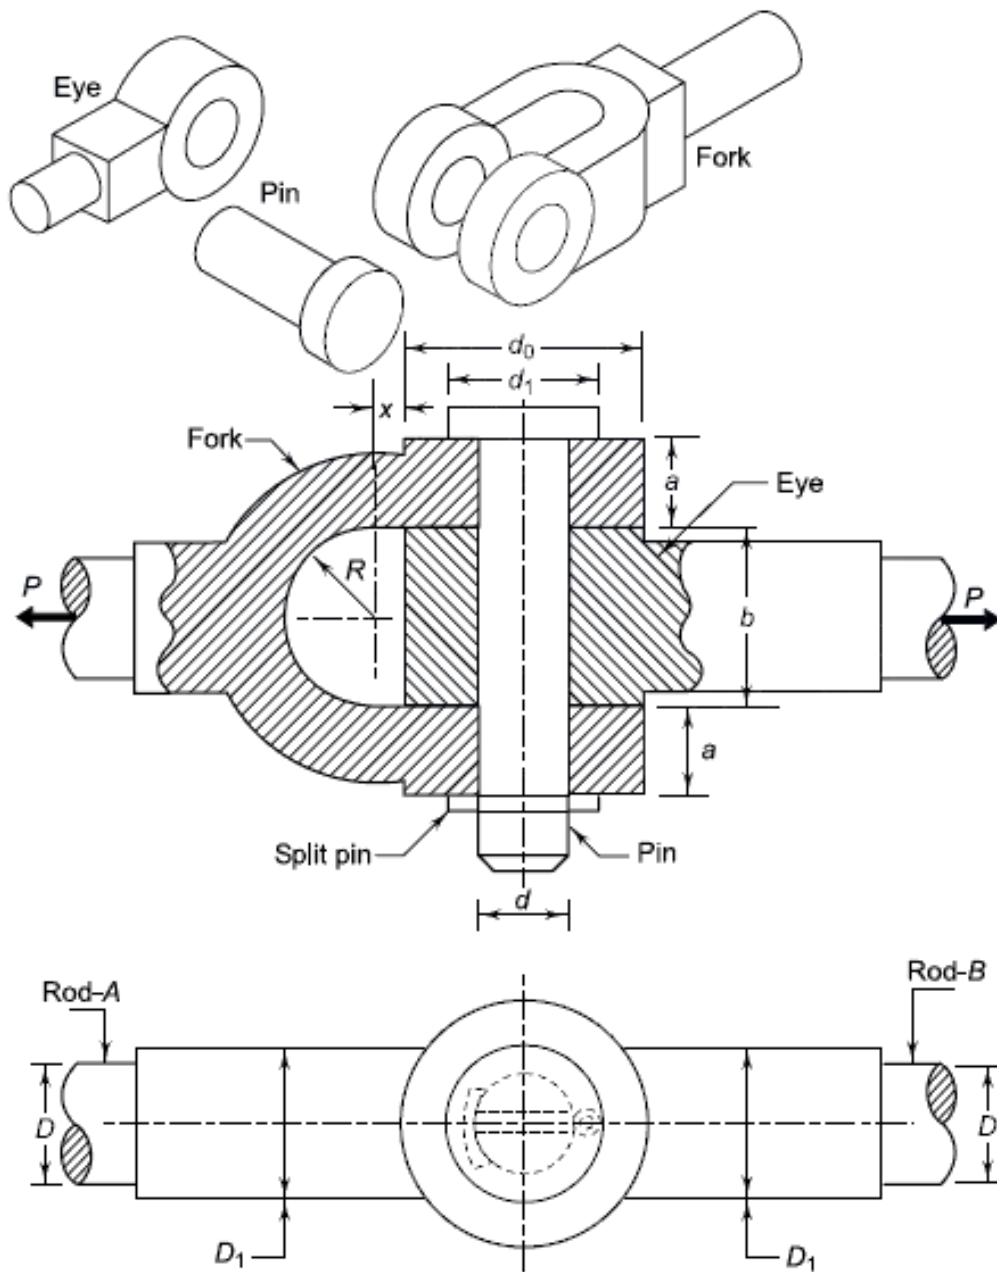

Figure.5.1
- Two rods are connected by means of a knuckle joint as shown in Fig.5.1 The axial force  $P$  acting on the rods is 25 kN. The rods and the pin are made of plain carbon steel 45C8 ( $S_{yt} = 380 \text{ N/mm}^2$ ) and the factor of safety is 2.5. The yield strength in shear is 57.7% of the yield strength in tension. Calculate: (i) the diameter of the rods, and (ii) the diameter of the pin.